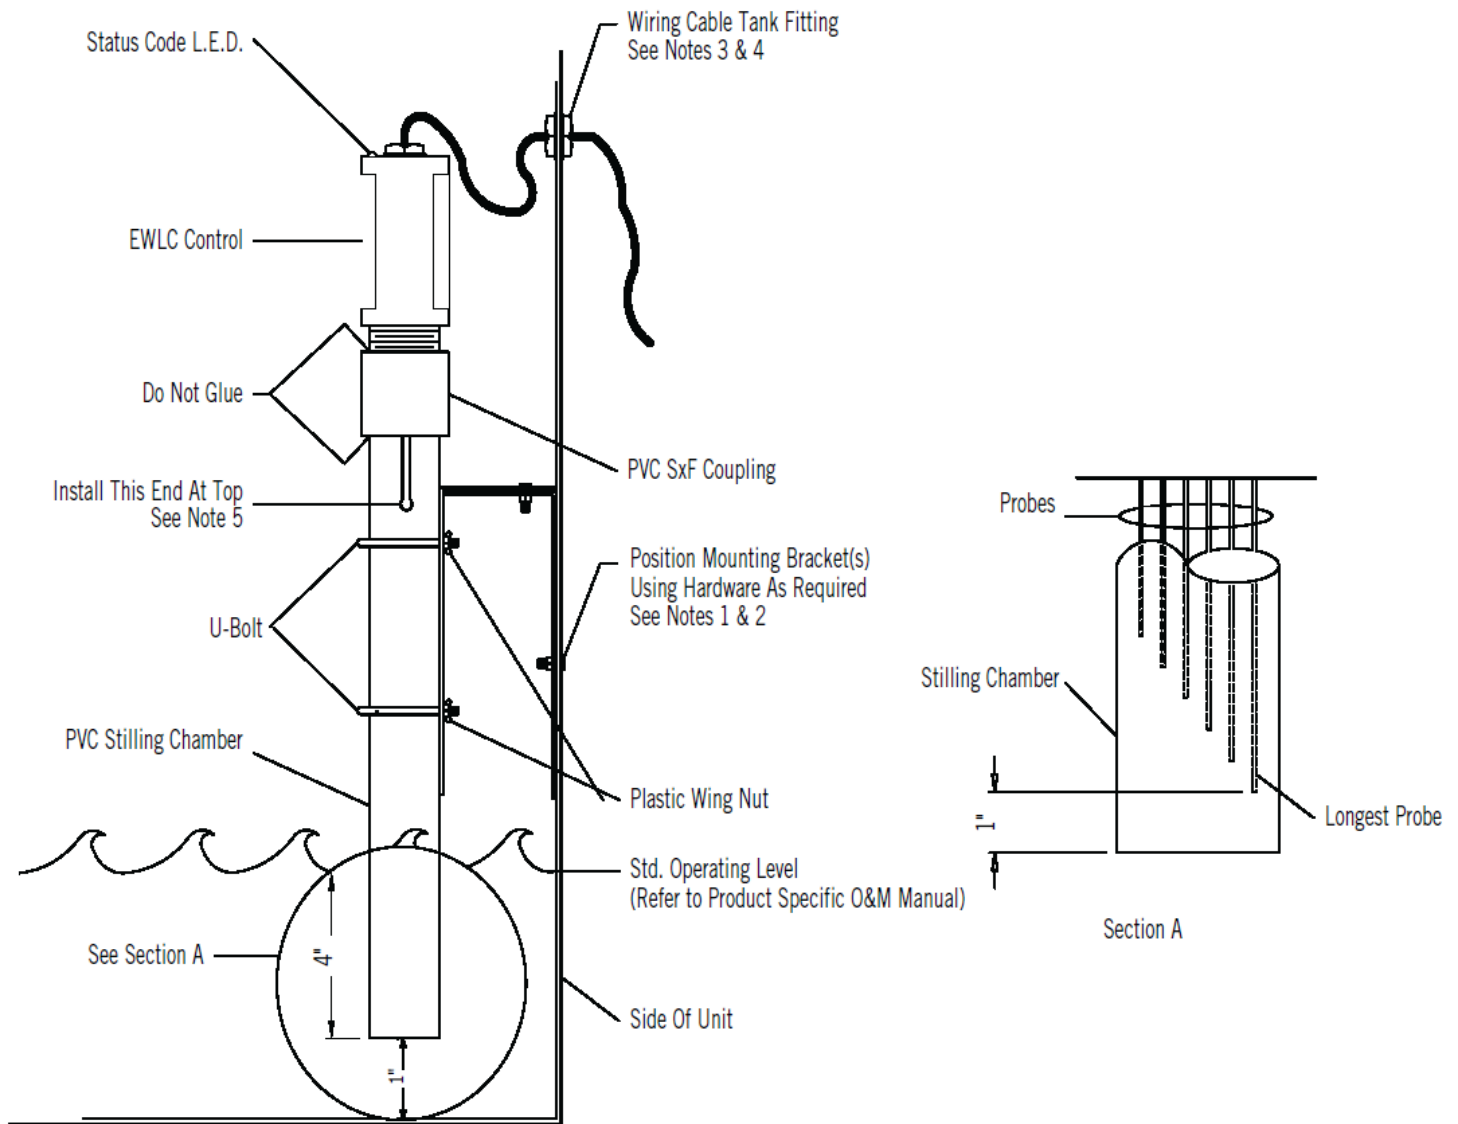

Figure 3. Typical Installation
4. Attach the stilling chamber, 2" S x F PVC Coupling, and probe assembly to the mounting bracket with 2 U-bolts and plastic wing nuts (see **Figure 3**). **Do not glue** any of these parts together. They are designed to be taken apart for easy, routine maintenance.
8. A normally closed (NC), 120 VAC slow closing, solenoid valve is required on the make-up line. Refer to the **Table 2** for suggested valve sizing. These valves are available as an accessory from your local BAC Representative. The valve size is the minimum recommended size for a single cell cooling tower of the rated tonnage. Multiple cell cooling towers may require a larger size valve or multiple valves piped in parallel due to greater basin volumes.